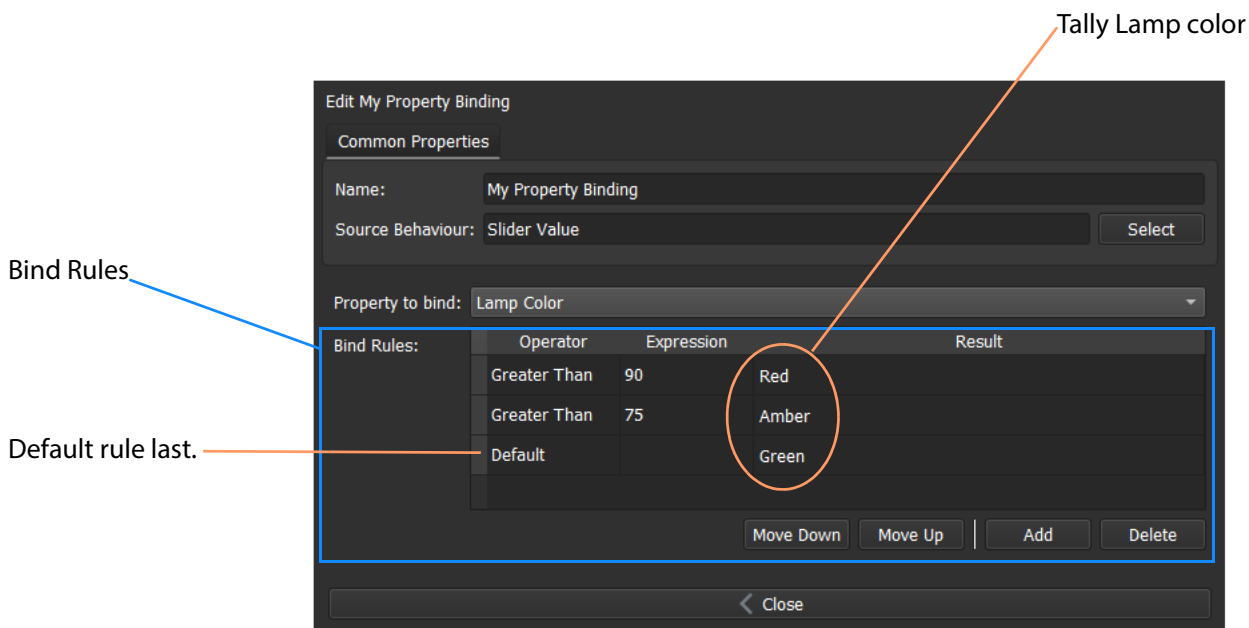

Fig. 7-8: Setting the Property Binding's Properties
- Set up 'Bind Rules' as shown in Figure 7-8.